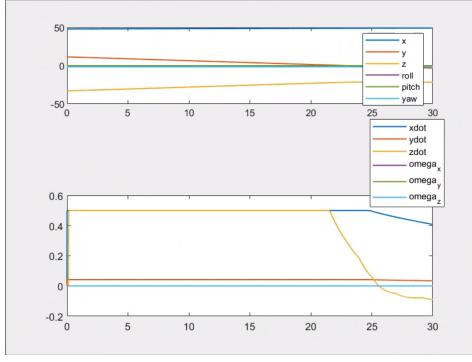

Figure 5: Position and velocities during the Minimum Altitude Vehicle task imposed 10m threshold
- **10 m:** It seems no a reasonable value. The UVMS has initial position below this threshold, so it start floating to the surface very quickly (it is possible to notice this huge vertical velocity \dot{z} , in the graph (Figure 5)). Of course, the task is not accomplished because the target position is far from the threshold.